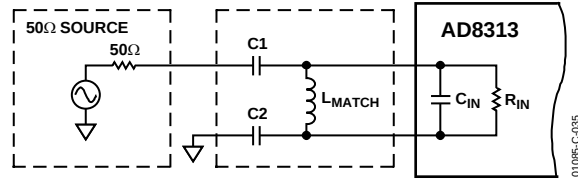

Figure 35. Narrow-Band Reactive Match
A narrow-band LC match can be implemented either as a series-inductance/shunt-capacitance or as a series-capacitance/shunt-inductance. However, the concurrent requirement that the AD8313 inputs, INHI and INLO, be ac-coupled, makes a series-capacitance/shunt-inductance type match more appropriate (Figure 35).
Table 4 shows recommended values for the inductor and capacitors in Figure 35 for some selected RF frequencies in addition to the associated theoretical voltage gain. These values for a reactive match are optimal for the board layout detailed as Figure 45.
**Table 4. Recommended Values for C1, C2, and LMATCH in Figure 35**